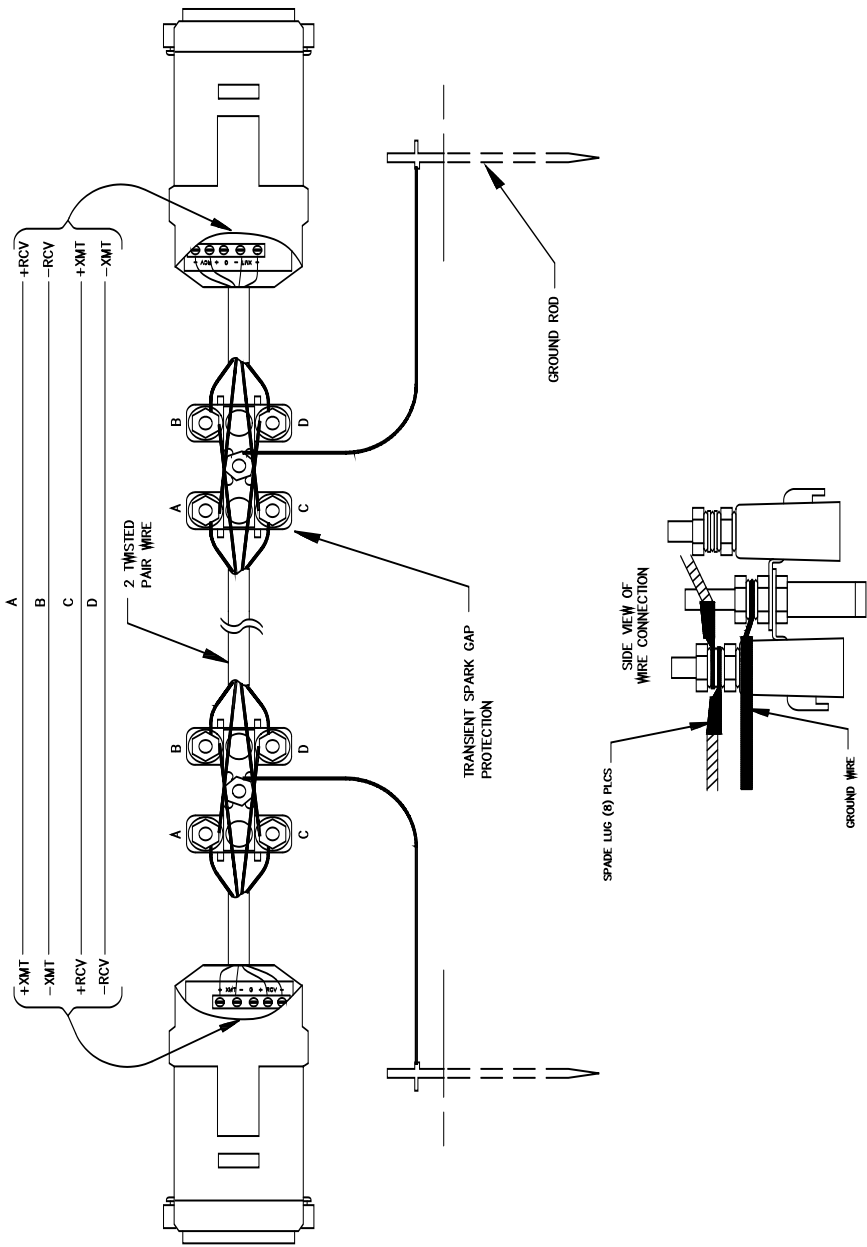

FIGURE 5-2. Installation of Spark Gap Protection
FIGURE 5-2 shows a typical set-up of the RAD modems. Installation is as follows:
3. Wiring connections are made as shown in FIGURE 5-2. Note wires labeled A and B are one twisted pair of the cable. Wires labeled C and D are the other twisted pair.
4. Transients induced on the communication line may damage any electronics connected at either end of the line. To decrease the chances for damage, spark gaps should be installed as shown in FIGURE 5-2. The transient protection shown may be purchased from Campbell Scientific (FIGURE 5-2). Spark gap wiring is straight through such that pin to pin continuity exists between the two modems. If the modems are installed entirely within a building, the transient spark gap protection is probably not needed.